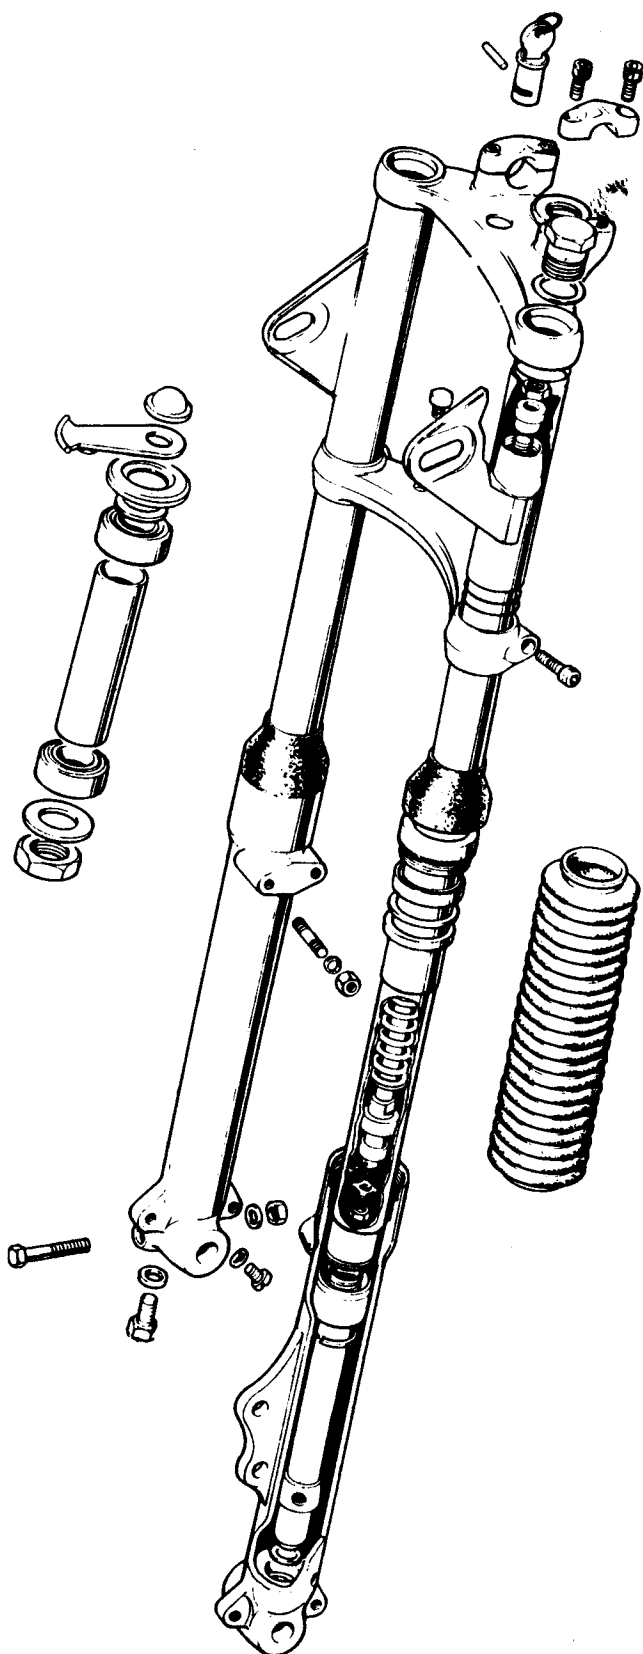

Fig. G4 Front fork exploded view
Consider that as the front wheel meets a bump in the road surface the front forks are compressed against the main springs. As the wheel passes the bump the forks are permitted to return to the static position. Should the motor-cycle become "front end light" such as negotiating a hump-backed bridge, the fork extends fully but once again on level road, returns to the static position. The natural tendency for a spring controlled suspension system is to over react and oscillate before returning to static position. Such a system would result in a pitching motion on rough roads and a subsequent loss of stability. To counter this condition, oil damping is provided which in the case of the Commando fork slows down the spring return both on compression and extension. Each fork slider contains 150 cc of oil which is metered by a rod and valve damper assembly. The damping sequence is detailed in the following text and the complete fork assembly is shown in *Fig. G4*.
- 4 Slacken the lower lug socket headed pinch screws (See *Fig. G4*).
- 6 Remove the damper tube anchor bolt (the various components are shown in Fig. G4) and collect the thick washer.
- 2 Grip the damper rod in a vice and fit the damper valve stop pin. The order of assembly is shown in Fig. G4.